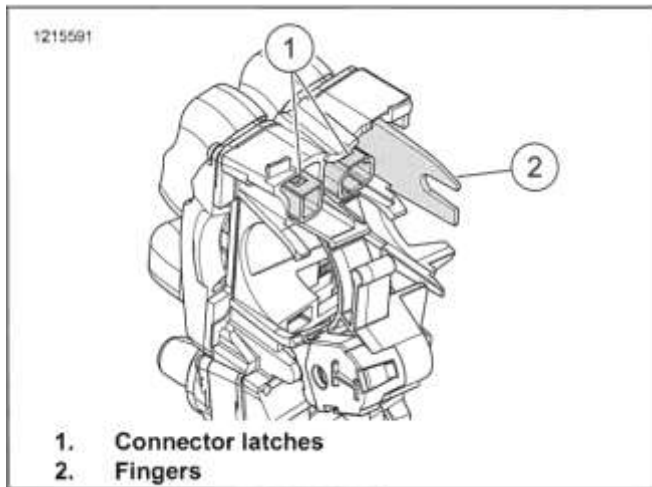

Figure 8-26. RHCM Connectors
- The screws (5) are captive.
- a. Loosen screws (5).
- b. Remove front housing (6).
2. See Figure 8-26. Remove connectors.